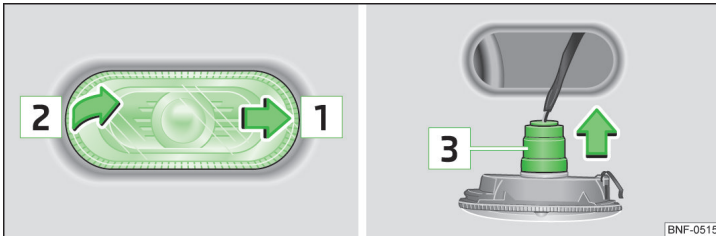

Fig. 131 Left side of the vehicle: Replacing the bulb for the turn signal light
- Slide the direction indicator light in the direction of **1** » Fig. 131 (on the right side of the vehicle mirror).